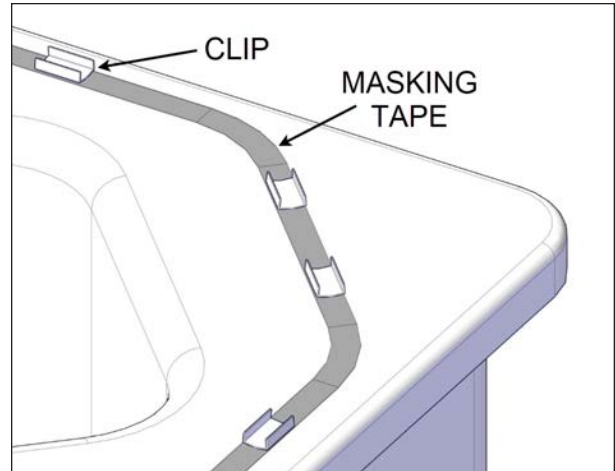
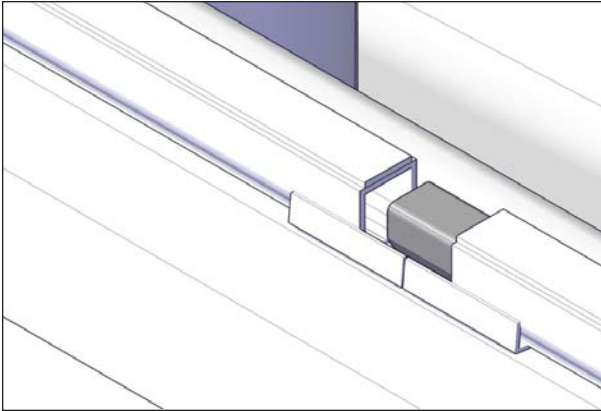
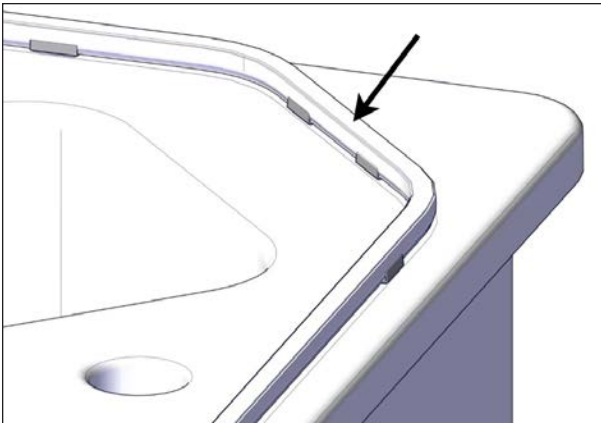

FIGURE 102: MASKING TAPE AND CLIPS
FIGURE 103: SEAL JOINT CONNECTOR
FIGURE 104: SEAL INSTALLATION
4. The number of seal clips is limited. Temporarily install the clips all around the spa to ensure the best distribution (do not stick yet). The minimum turn radius for the seal is 4" (10 cm), see Figure 102. Keep two clips for the seal joint connector as shown in Figure 103. Once the distribution is done, stick the clips in place (on the tape if applied).
5. The seal joint starts on the opposite side from the spa entrance. Install two clips where the seal joint connector will be located, see Figure 103.
6. Start installing the seal joint with the adhesive layer facing up towards the cover, see Figure 103 and Figure 104.
8. Insert the supplied seal connector in both ends of the seal. The use of masking tape to hold the two ends is recommended, see Figure 103.